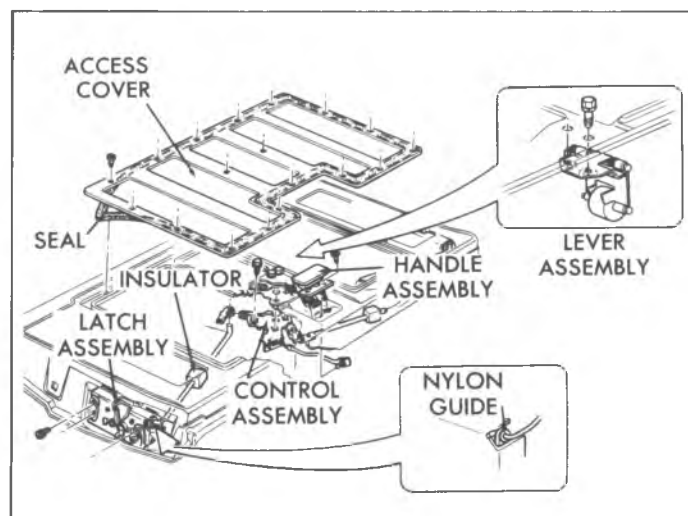

Fig. 52—Latch and Remote Controls—(06 Only)
1. Remove access cover shown in figure 52, to gain access to interior components.
13. Remove side latch bolts and remove side latches with control rods. See figure 52.